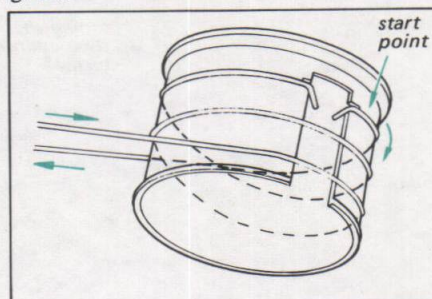

Fig. 2-6. Wrapping the dial cord
2. Run the cord through the slot in the rim of the drum and wrap a clockwise turn as shown in Fig. 2-6.